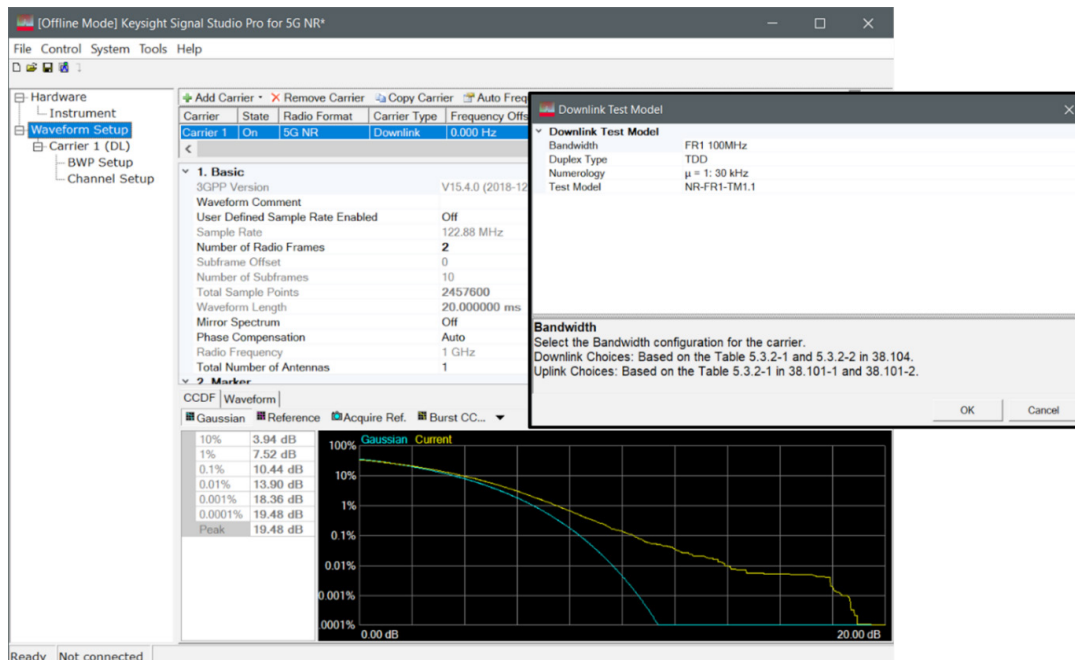

Figure 3: CCDF plot for 5G NR FR1 downlink TM1.1 with a 100 MHz signal bandwidth
Figure 3 shows the 5G NR FR1 downlink signal waveform simulation with 100 MHz bandwidth using the Test Model (TM) 1.1. The PAPR of the waveform is up to 19.5 dB. If the maximum output power of the signal generator is +20 dBm. The maximum amplitude setting (average power) you can go with the signal generator is +0.5 dBm ($20 - 19.5 = 0.5$). This prevents the signal generator's power amplifier from being saturated. Signal generators require a very linear output section with less distortion for 5G signal generation.